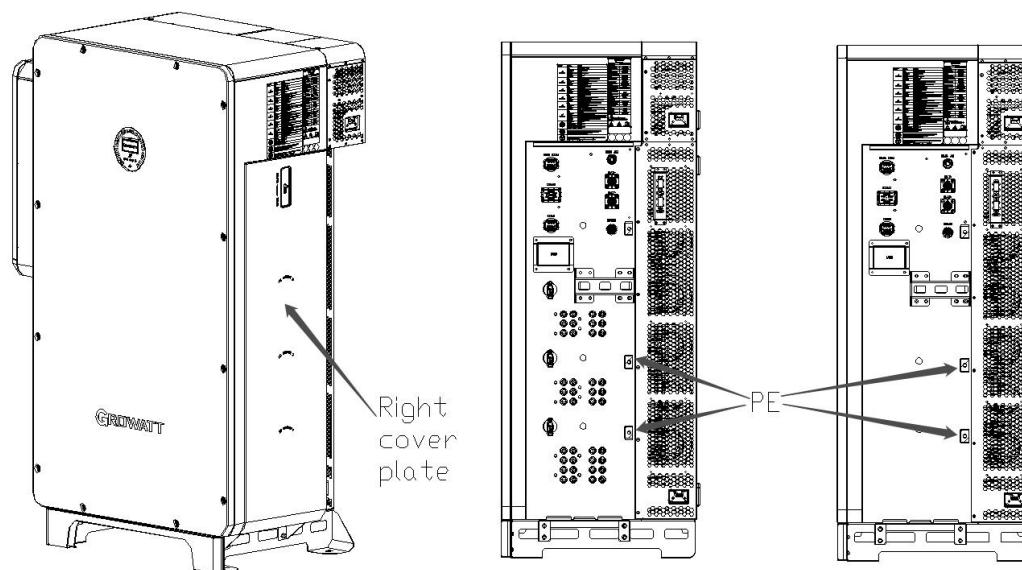

Fig 6.1 Ground points
4. The ground points of the WIT 50-100K series Storage Inverter are shown in figure 6.1. You can find the ground points after removing the right cover plate.
1. Open the protective cover on the right side of the machine, as shown in Figure 6.1;
4. Open the protective cover on the right side of the machine (Figure 6.1);